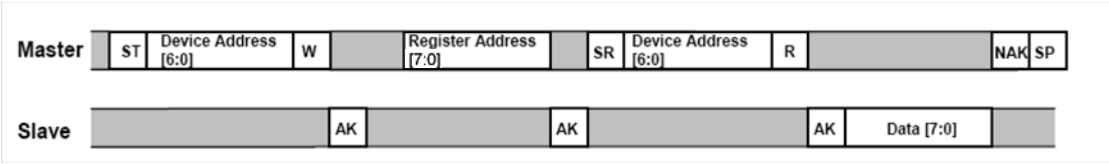

Figure 7. Single Byte Read - The Master is reading one address from the MMA7456L
The MMA7456L has an 10-bit ADC that can sample, convert and return sensor data on request. The transmission of an 8-bit command begins on the falling edge of SCL. After the eight clock cycles are used to send the command, note that the data returned is sent with the MSB first once the data is received. Figure 7 shows the timing diagram for the accelerometer 8-bit I²C read operation. The Master (or MCU) transmits a start condition (ST) to the MMA7456L, slave address (\$1D), with the R/W bit set to "0" for a write, and the MMA7456L sends an acknowledgement. Then the Master (or MCU) transmits the 8-bit address of the register to read and the MMA7456L sends an acknowledgement. The Master (or MCU) transmits a repeated start condition (SR) and then addresses the MMA7456L (\$1D) with the R/W bit set to "1" for a read from the previously selected register. The Slave then acknowledges and transmits the data from the requested register. The Master does not acknowledge (NAK) it received the transmitted data, but transmits a stop condition to end the data transfer.